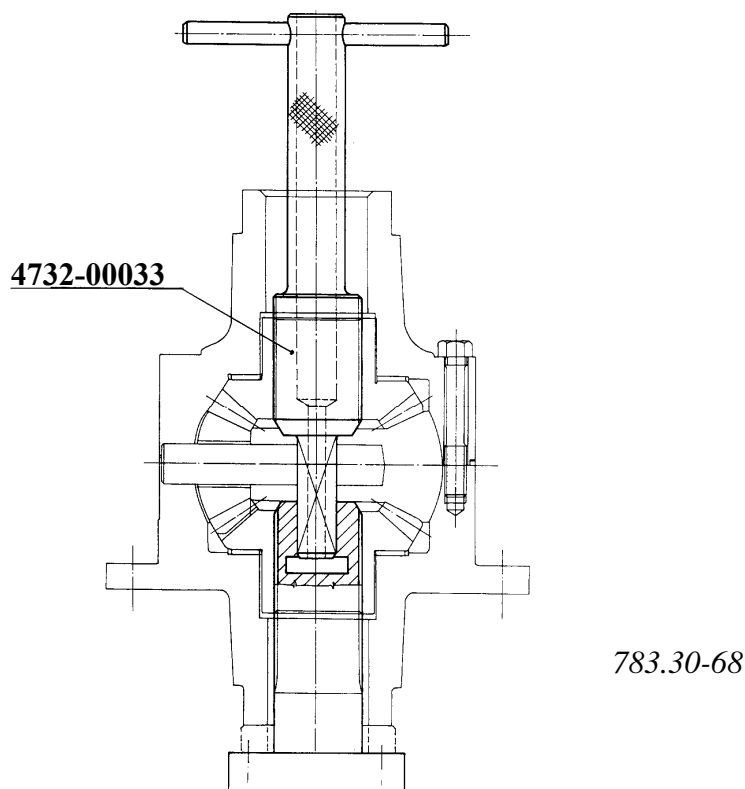

Figure 2.: MOUNTING AND CHECKING THE DIFFERENTIAL BOX
Place the flanged differential half case (31) preassembled mandrel (Figure 2.). Position the preassembled spacer disc (26) and differential crown-wheel (27) and spacers (30) with differential pinion (29) and traverse shaft (28). Position the other differential crown-wheel and the spacer disc.